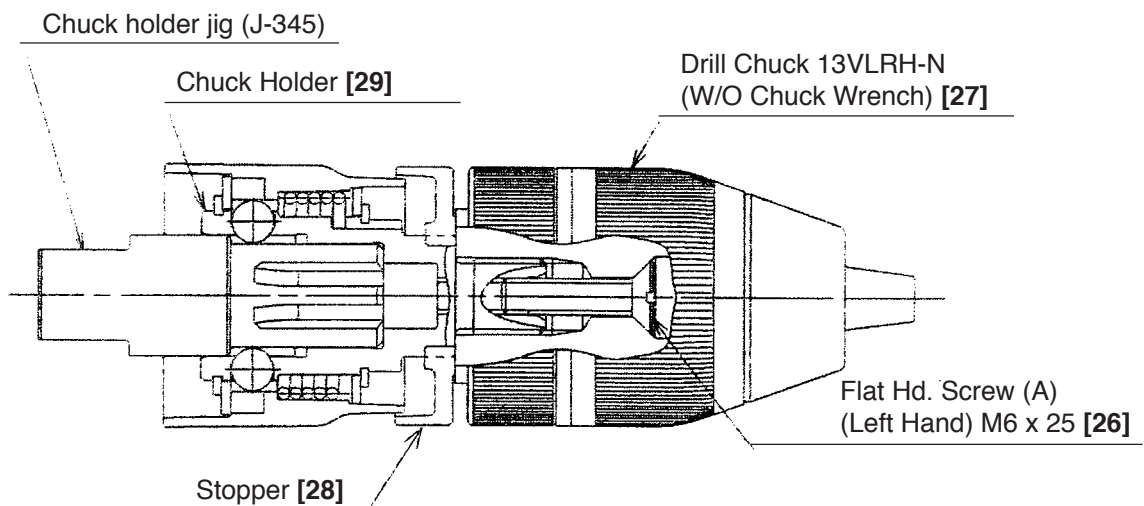

Fig. 20
Engage the chuck holder jig (J-345) with the spline as shown in Fig. 20. Hold the width across flats in a vise and remove Flat Hd. Screw (A) (Left Hand) M6 x 25 [26]. Put a hexagonal bar in the Drill Chuck 13VLRH-N (W/O Chuck Wrench) [27] then loosen and remove it using a torque wrench. Remove the Stopper [28]. Then the chuck holder can be removed in the same manner as the bit holder.